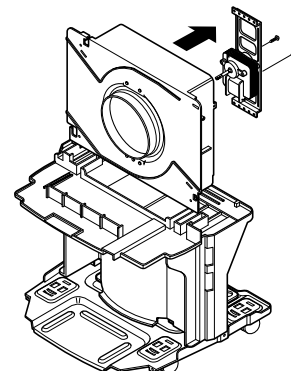

Figure 20
4. Unfasten 2 screws that secure the motor. (See Figure 20)